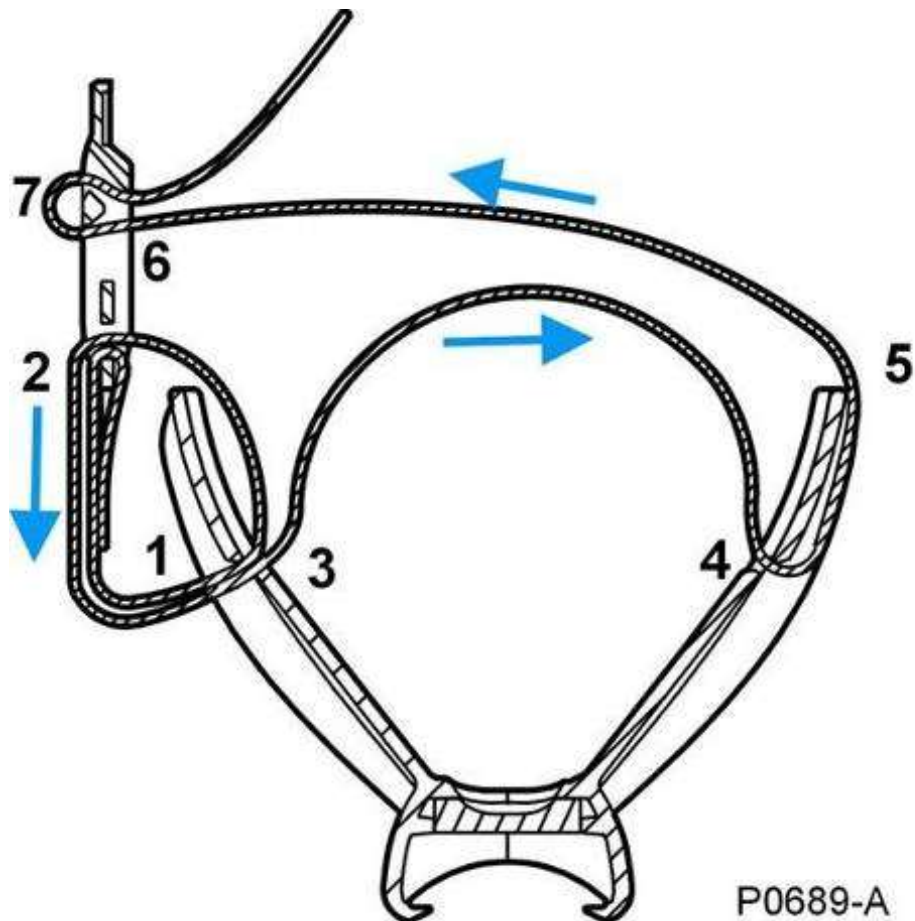

Figure 59: Threading the Armstrap, view from coil.
- Thread the armstrap as shown in Figure 59.